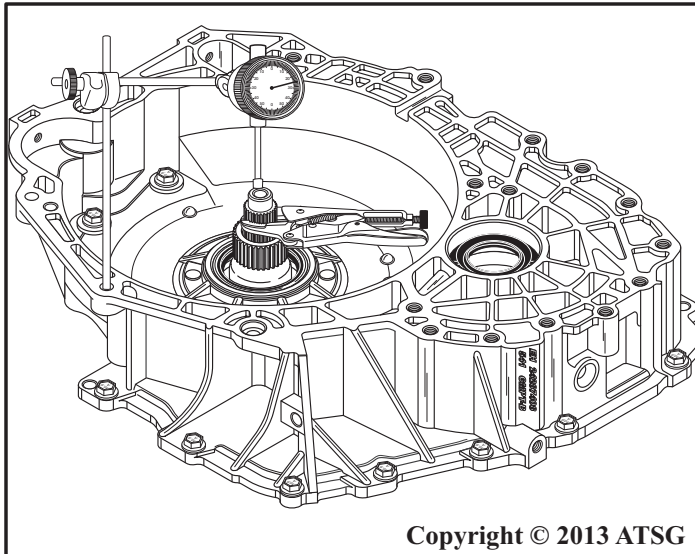

Figure 214
51. Install dial indicator on the input shaft, as shown in Figure 214, and zero the indicator.